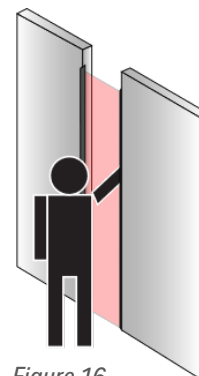

Figure 16
3. Cycle the doors and break the light curtain to trigger a Re-Open signal. The DETECTOR EDGES LED should be on. See Figures 16 & 17.
2. As the doors close, obstruct the infrared light curtain to trigger the detector edge. The DETECTOR EDGES LED should be on. See Figures 16 & 17.